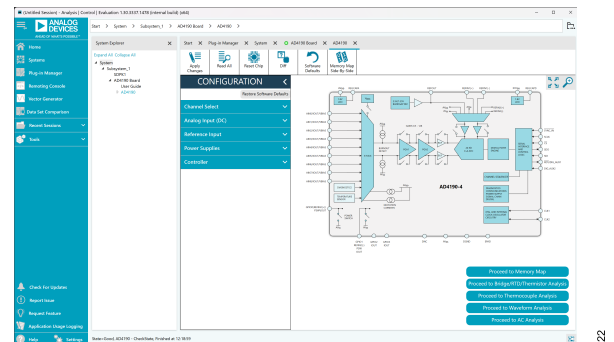

Figure 22. AD4195-4 Chip View
5. Click **Software Defaults** and then click **Apply Changes** to apply the default settings to the AD4195-4 (see Figure 22).